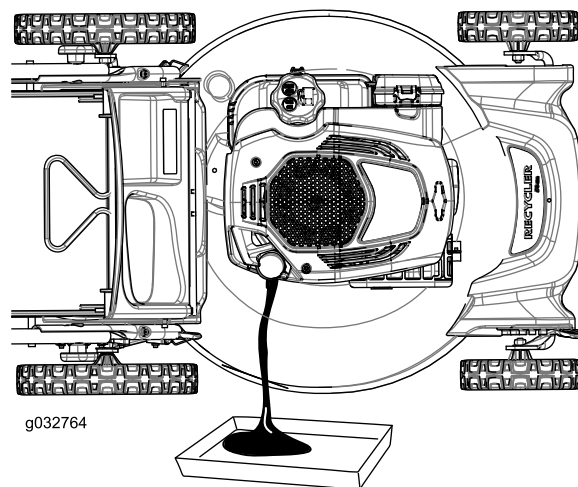

Figure 26
7. Tip the machine onto its side, with the oil-fill tube down, to drain the used oil out through the oil-fill tube into the oil-drain pan (Figure 26).